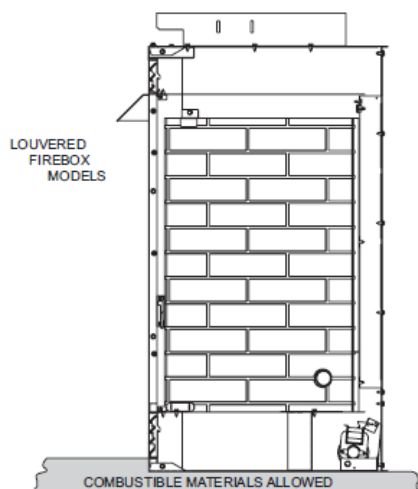

Figure 4
3. Recessed into the floor as illustrated by Figure 4.
4. Supported under all (4) corners of the firebox so that contact is made on all four perimeter edges on the bottom of the unit (Example: Four (4) concrete masonry blocks). If the firebox is installed directly on carpeting, tile or other combustible material other than wood flooring, it should be installed on a metal or wood panel extending the full width and depth of the unit. At this point, you should have decided what components to include in your installation, and where the firebox is to be located. If this has not been done, stop and consult your dealer for assistance with this planning.